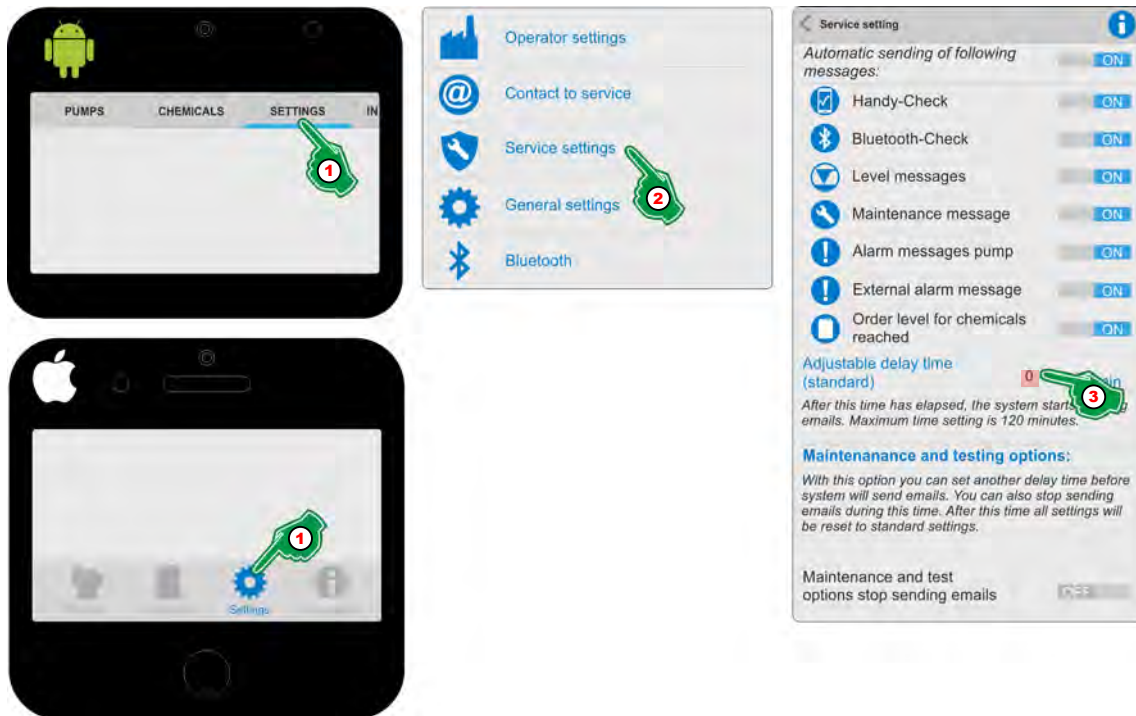

Fig. 52: 'Adjustable delay time'
1.  Select [Settings] (Fig. 52, Pos. 1).
2.  Select [Service Settings]  (Fig. 52, Pos. 2).
3.  In the input field for the 'Adjustable delay time' (Fig. 52, 3) to set the required capacity / flow rate.